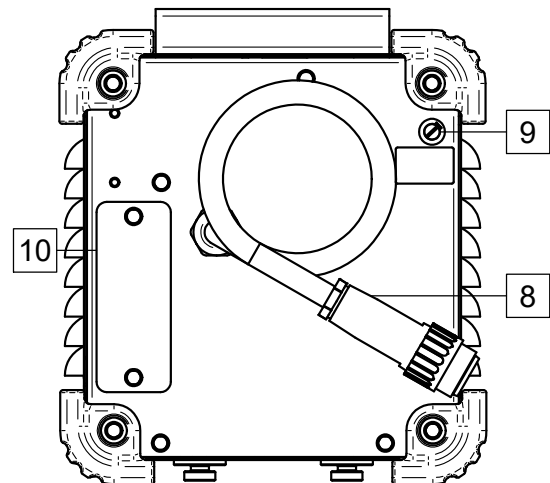

Figure 5
- Connect the hose with quick water connector (added to the equipment) to the cooler's inlet and outlet socket (Figure 5).